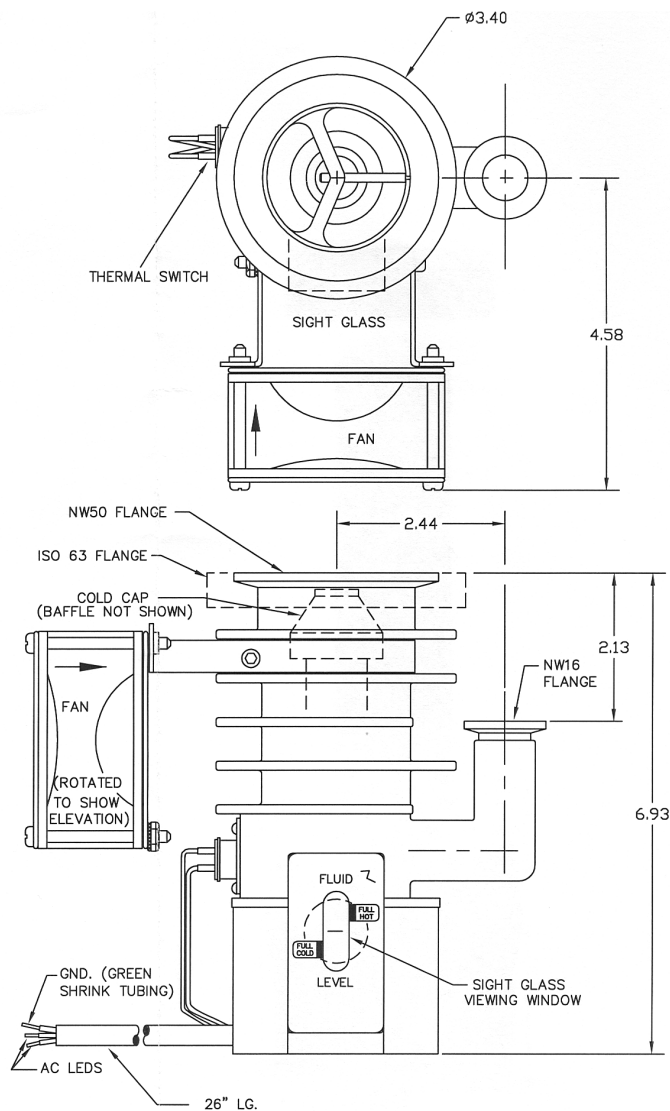

Figure 1-2 AX-65 Diffusion Pump Installation Diagram
Refer to Figure 1-2 during this procedure.
1. Connect the green insulation wire to ground (Figure 1-2).